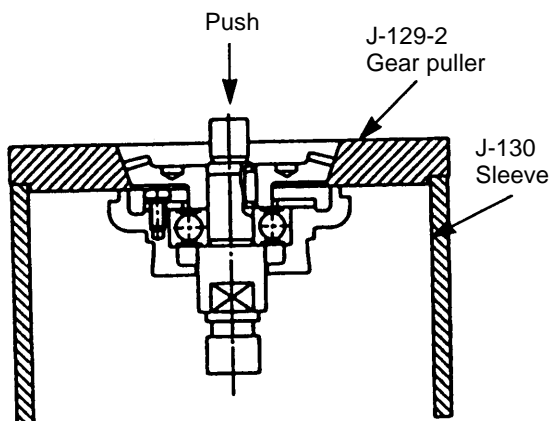

Fig. 4
As illustrated in Fig. 4, support the angled surface of the Gear [21] with a J-129-2 gear puller (special repair tool, Code No. 970906), rest the J-129-2 gear puller on a J-130 sleeve (special repair tool, Code No. 970907), and push down on the tip of the Spindle (A) or (B) [30] with a hand press to remove the Gear [21].